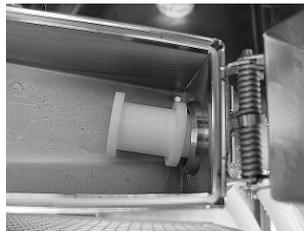

Figure 2:
5. Narrow the outlet of the pressure box into the Teflon tube by using the special mandrel as shown in figure 2. (The design of the mandrel may vary.)